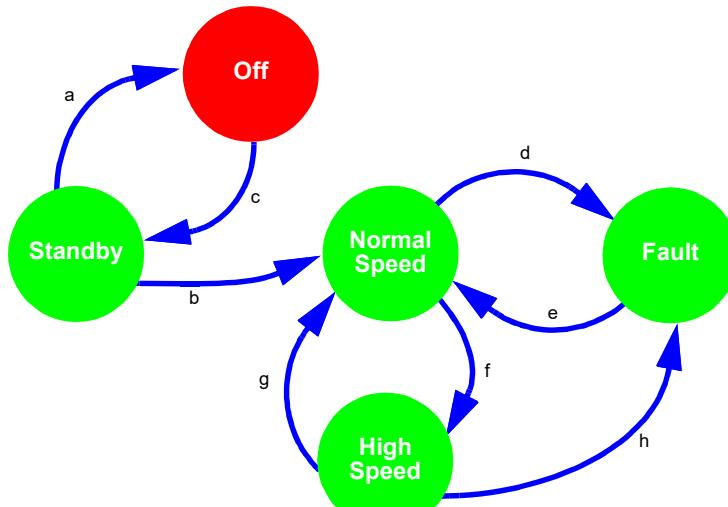

Figure 115: Asynchronous State Machine State Transitions
The Asynchronous State Machine macrocell is one of several macrocells in the Asynchronous State Machine Subsystem, and its specific role is to hold one active state at a time, and to facilitate user defined state transitions in a fast and power efficient manner. This macrocell is designed to allow the user to create state machines with between 2 to 12 states. When combined with the other macrocells in the ASM subsystem [four Dynamic Memory (DMx_X) macrocells, three Matrix Interface (MIx) macrocells, and one f(1) Computation Macrocell], the user has flexibility to define the available states, the available state transitions, and the input signals (a, b, c ...) that will cause transitions from one state to another state, as shown in the example in Figure 115.